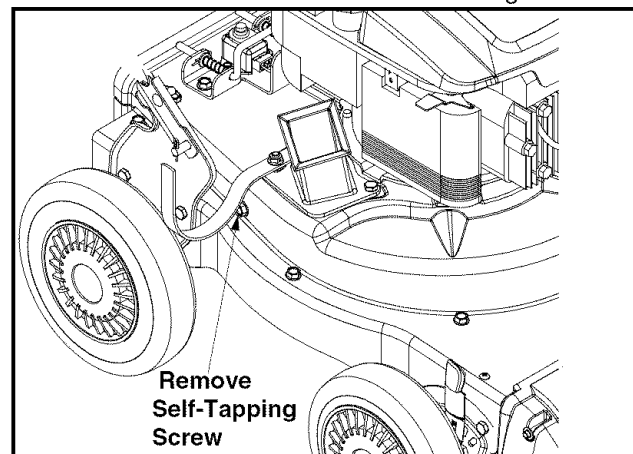

Figure 18
- Remove self-tapping screw on right side of unit that attaches to the flail screen. See Figure 18.